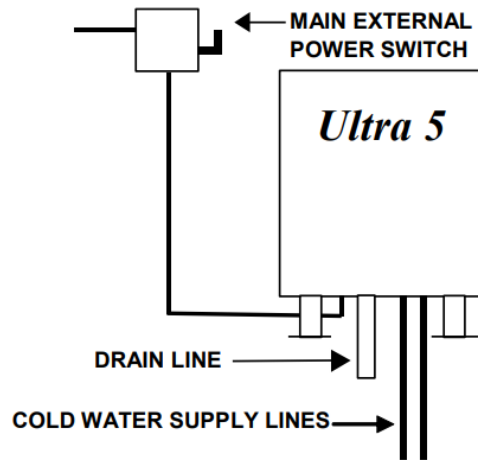

Figure 3-5
1. Install a main disconnect switch and a separate fuse or breaker for this appliance as shown in Figure 3-5. The fused disconnect switch is referred to as the “Main External Power Switch.”